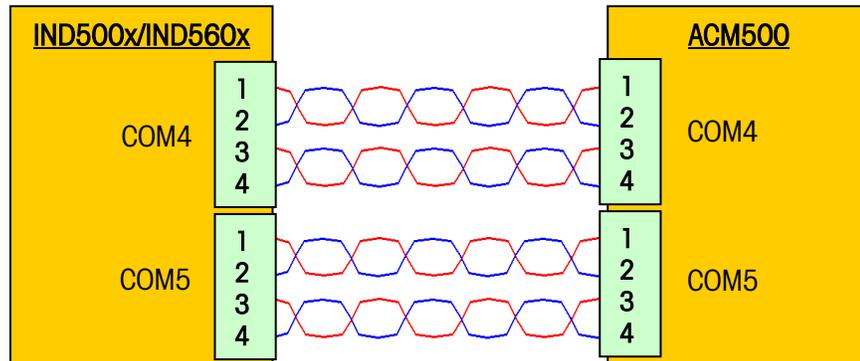

Figure 3-12: I.S. Serial Interface Wiring
4. Follow the wiring connections shown in Figure 3-12 and Table 3-3. Refer to Figure 3-11 to help identify the terminal positions. Keep the internal wiring as short as practical.
6. Follow the wiring connections shown in Figure 3-12 and Table 3-3. Refer to Figure 3-11 to help identify the terminal positions. Keep the internal wires as short as practical.